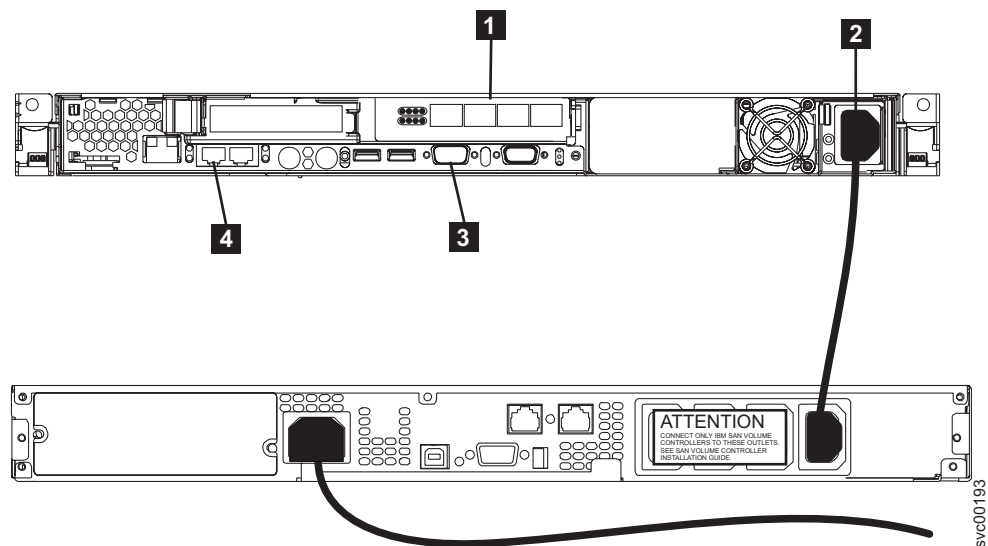

Figure 1. Power cable and signal sockets for the SAN Volume Controller 2145-8F4 and 2145 UPS-1U
2. Ensure that the power cable **2** is plugged into the load segment receptacle of the 2145 UPS-1U. Also, ensure that the other end of the 2145 UPS-1U power cable is connected from the 2145 UPS-1U to the distribution point in the rack. Figure 1 shows the connectors for the SAN Volume Controller 2145-8F4 and the 2145 UPS-1U.